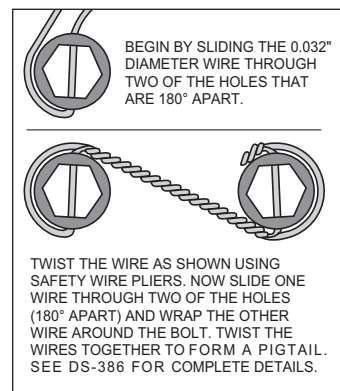

Figure 4
STEP 7 Orient the rotor (20) and the hat (21) as shown in Figure 1 and Photo 8. Attach rotor to hat using bolts (22) and washers (23). Apply red *Loctite*® 271 to the bolt threads and torque to value shown in Figure 1 using a criss-cross pattern. For an added measure of security, the bolts may be safety wired using standard 0.032 inch diameter stainless steel safety wire as shown in Figure 4. Refer to Wilwood's data sheet DS-386 (available at www.wilwood.com/Pdf/DataSheets/ds386.pdf) for complete safety wire installation instructions.
STEP 8 Slide the rotor registration adapter (24) onto the axle register on the axle flange with the smaller O.D. facing toward the rotor/hat (20/21), Photo 9. Slide the assembled rotor/hat (20/21) onto the axle flange. **NOTE:** *The rotor/hat must fit flush against the axle flange or excessive rotor run out may result.* Install three lug nuts (finger tight) to keep the rotor/hat assembly in place while continuing with the installation.